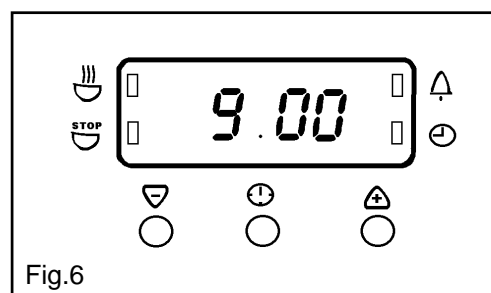

Fig.6
- i) Ensure the electricity supply is switched ON and that the correct time of day is displayed, e.g. 9.am. as Fig. 6.